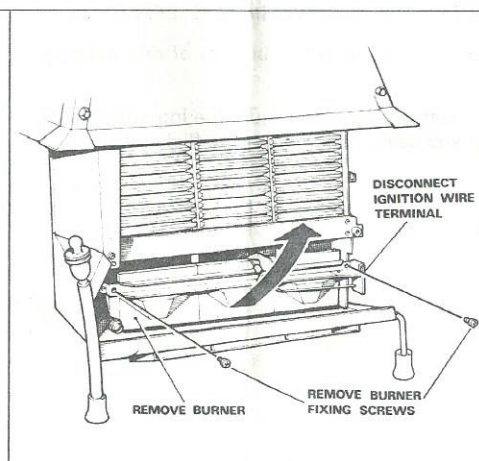

FIG. 8
9. Disconnect the ignition lead from the electrode terminal rod. (Fig. 8).
10. Remove the two pozidriv burner fixing screws (Fig. 8) and remove the burner assembly with an upward and outward action.